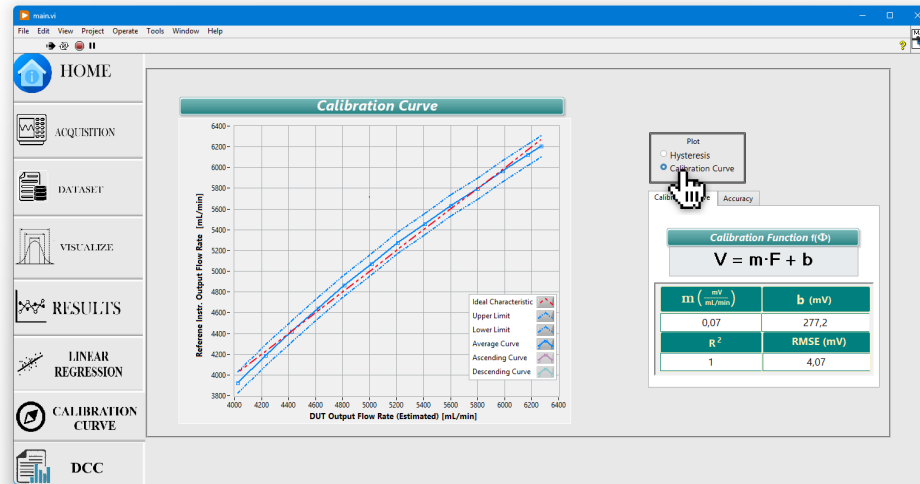

Figure 36: Plotting the calibration curve on the input flow rate versus output flow rate graph.
Step 12) Select the *Calibration Curve* tab. Locate the *Calibration Curve* graph on the left, as illustrated in Figure 36. The user can visualize the average vales curve, and how it compares to the ideal linear characteristics. Moreover, the user can now ascertain the input flow rate, from the DUT reading, from the Upper and Lower Limit bands. This two dotted curves, are plotted according to the measuring system error, computed from all the sources of inaccuracy that have been accounted for. This information, along with hysteresis error and linearity error, are reported on the right side of the page.